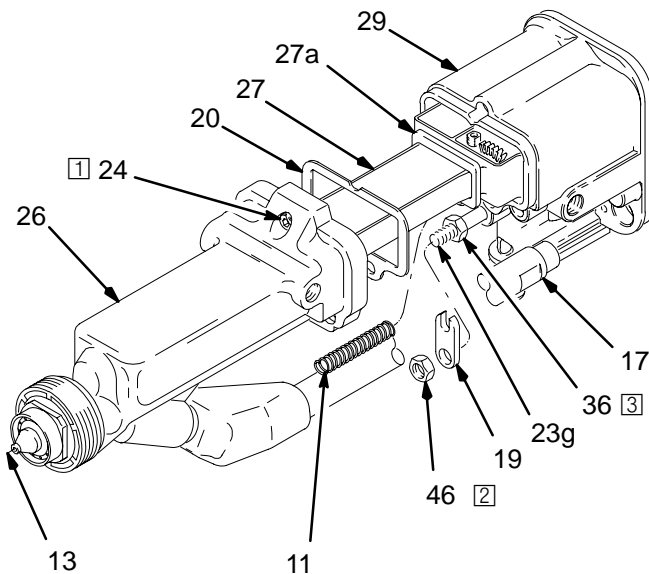

Fig. 39
1. Be sure the gaskets (20, 27a) and spring (11) are in place. See Fig. 39. Replace the parts if they are damaged.
2. Place the barrel (26) over the power supply (27) and onto the gun body (29). Make sure the fluid needle spring (11) is seated properly.
3. Install the fluid tube (17) into the gun body (29).
4. Using the ball end wrench (77—not shown), tighten the three screws (24) oppositely and evenly to 18 in-lbs (2 N•m) maximum (about a half turn past snug); do not over-tighten the screw.